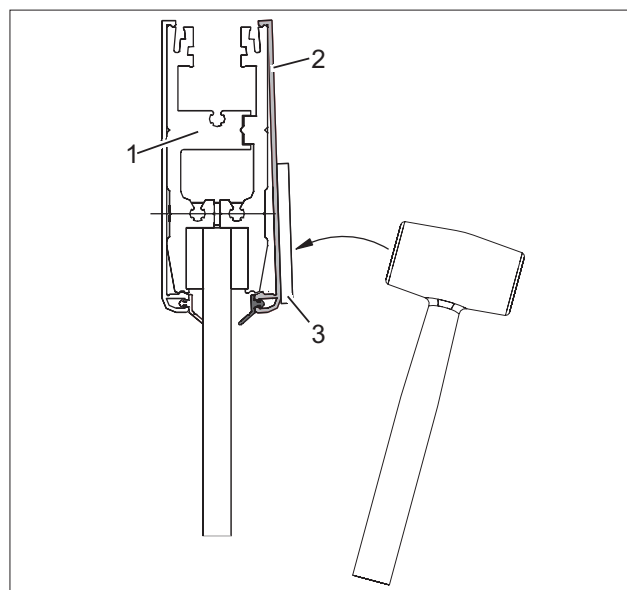

Fig. 43 Snapping on cover profile
2. Place the cover profile (Fig. 43/2) with the lower edge on the upper door rail (Fig. 43/1) and snap on using a hammer. Do not hit the cover profile (Fig. 43/2) directly with the hammer; rather, use an intermediate layer (Fig. 43/3).